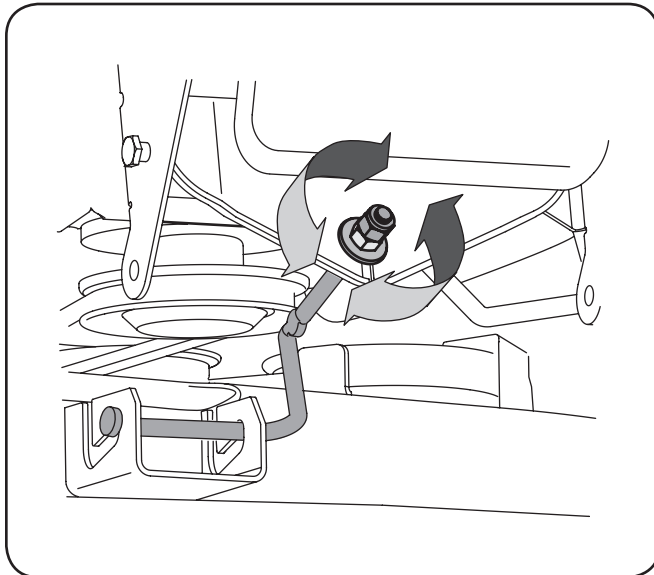

Figure 6-4
1. Loosen (thread outward) the hex lock nut on the end of the deck hanger rod. See Fig. 6-4.
See Fig. 6-4.